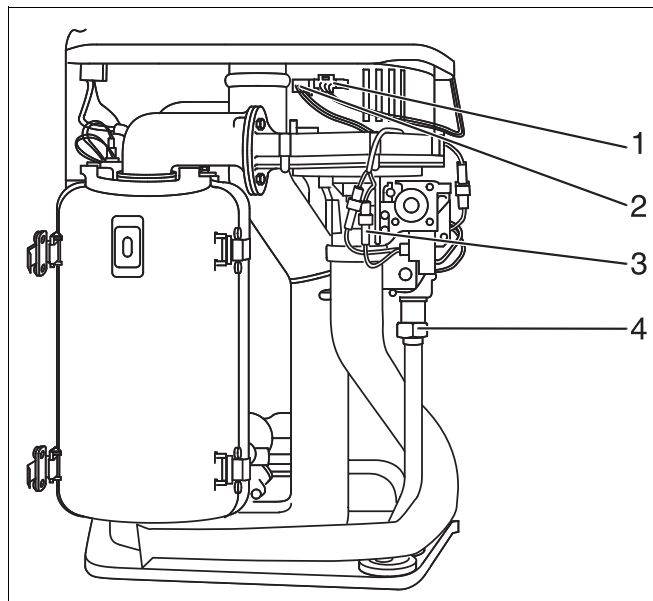

Fig. 40 Loosen the union nut and remove the cable
- Release plug-in connection of fan power lead (fig. 40, item 1), burner-control unit fan control lead (fig. 40, item 2) and gas-burner assembly (fig. 40, item 3).
- Loosen union nut on gas valve assembly (fig. 40, item 4).